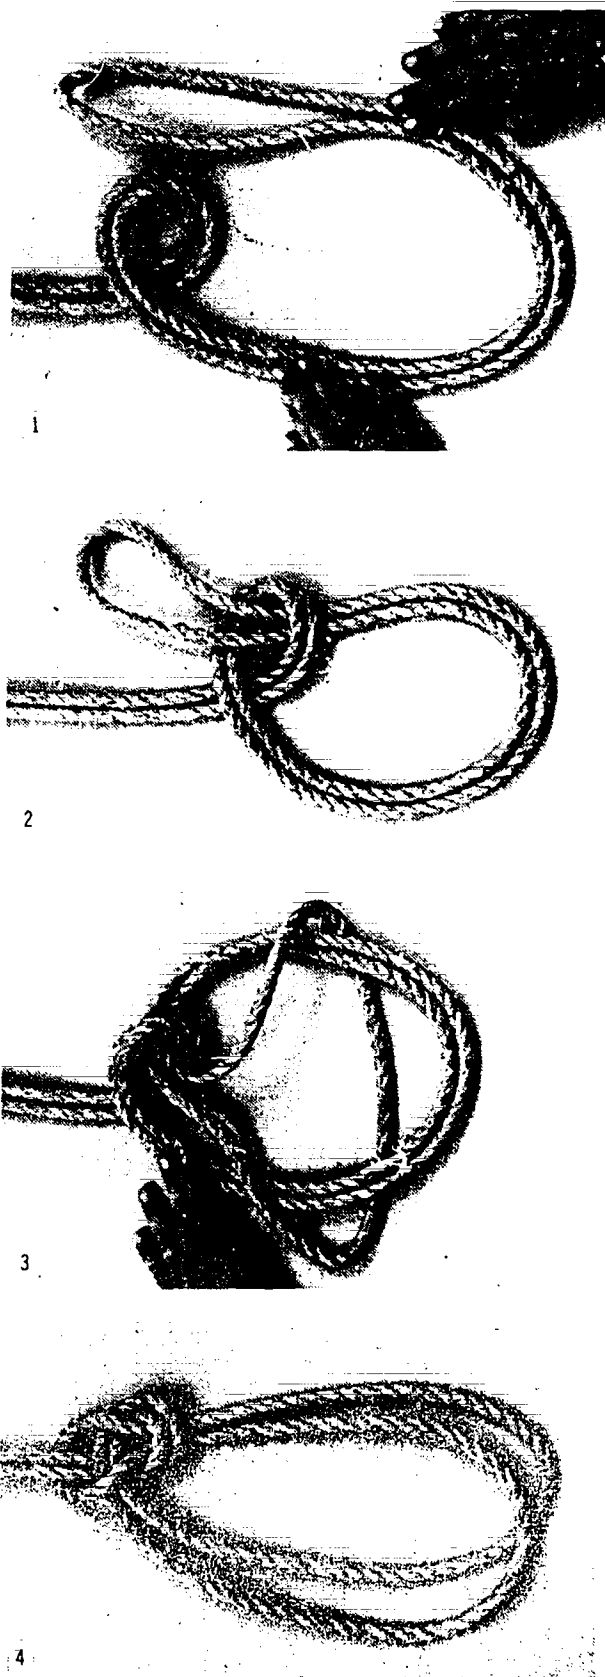

Figure 7-13. Tying a Bowline on the Bight
4. A **bowline on the bight** is tied to form a double loop in the middle of a line that can be used as a seat or as a spreader to sling a load. Figure 7-13 illustrates the steps in tying a bowline on the bight.